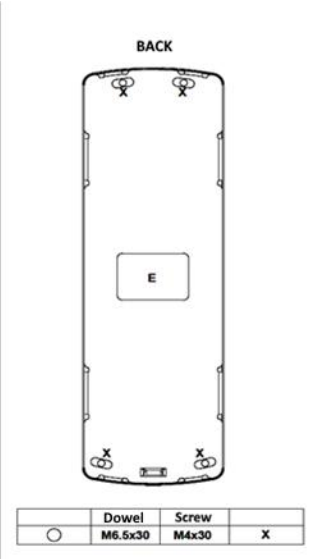

Figure 3
- 1.3 Drill the holes (shown on Figure 3 by X) for M6.5 dowels.
- 1.4 Open a hole in the wall through which the rectangular socket of the panel with sizes 40x28mm can pass (shown as E in Figure 3)